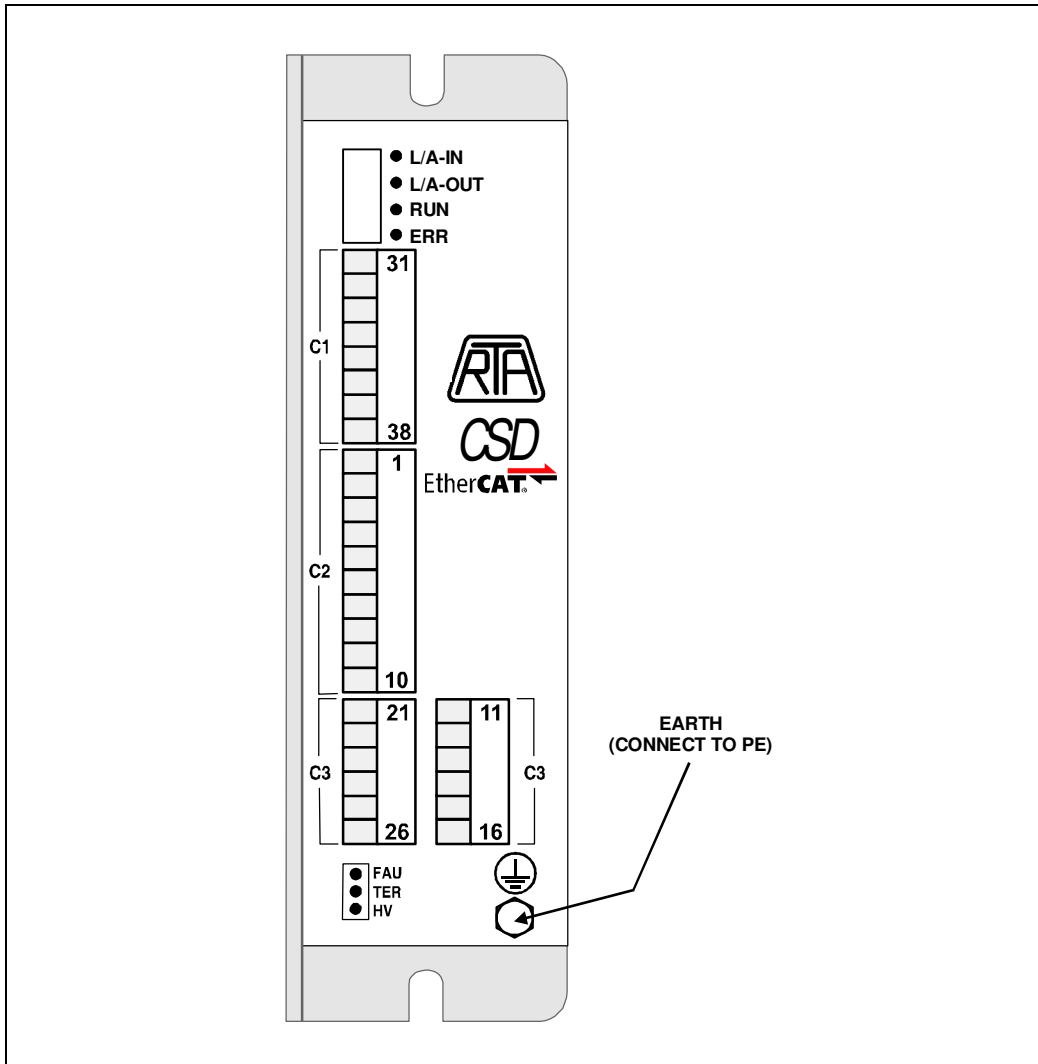

Fig. 5 – Alert led and connectors.
5.2- Earth terminal in CSD ET 04 (see Figure 5) – Earth terminal is on the frontal panel in the inferior part of it and has to be electrically connected to earth (PE terminal of the machine in which the drive is installed).
- 6.2- Fig. 5 shows the position of alert LED and connectors on the case.